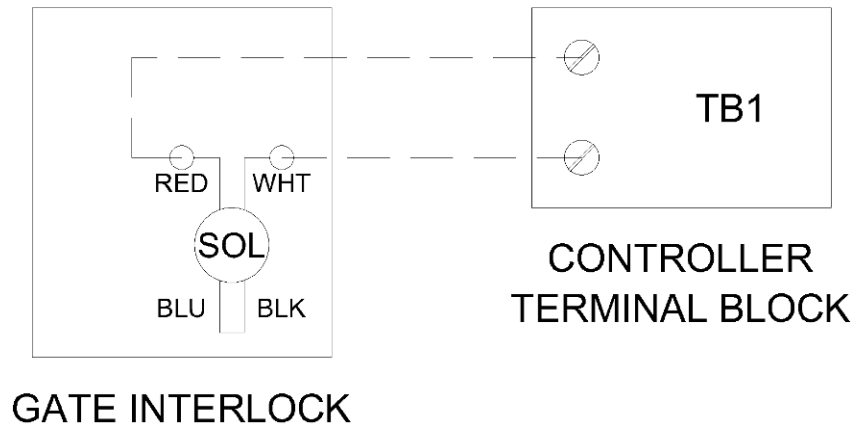

Figure 14 - Interlock Wiring
- See **Figure 14** for wiring diagram.